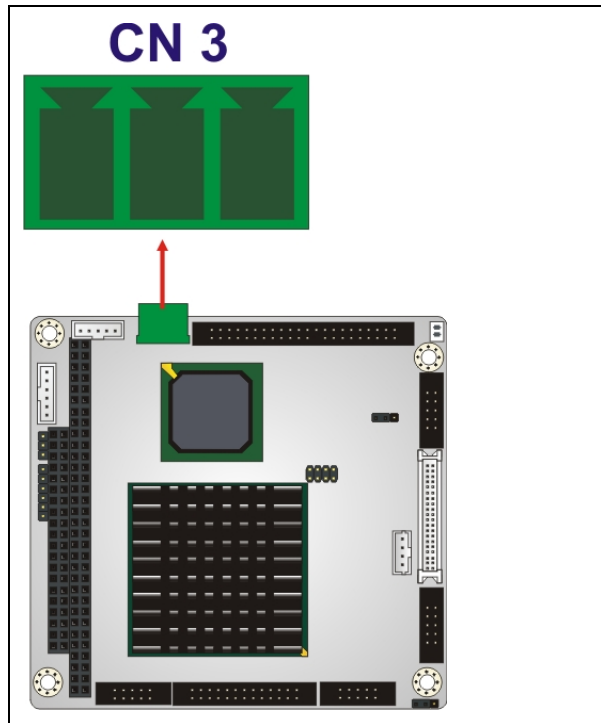

Figure 3-3: 12V / 5V Power Connector Location
- CN Location:** See **Figure 3-3**